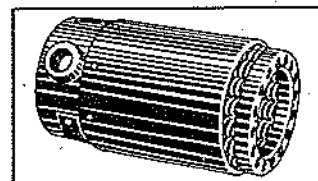

Figure 78
(6) Insert the spring and valve assembly between the inner and outer sleeve, as shown in Fig. 78. Seat it carefully against the rear seal.